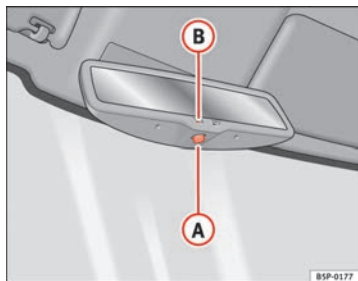

Fig. 66 Automatic anti-dazzle interior mirror.
- Press button **A** ⇒ fig. 66. Indicator lamp **B** goes off.
- Press button **A** ⇒ fig. 66. Warning lamp is lit.